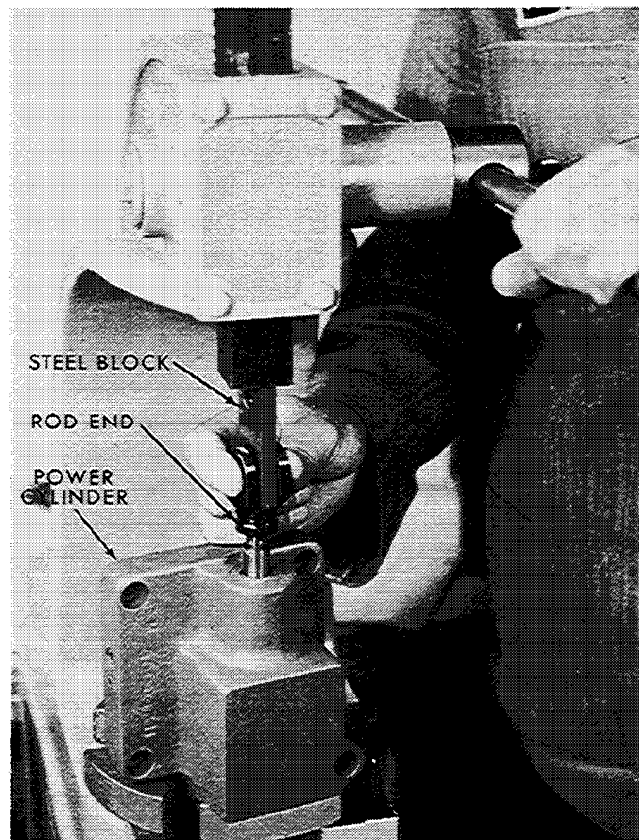

Figure 3-7
4. Press oil seal (47) into oil seal retainer (48) flush with the end opposite the flange end of retainer.
5. Install gasket (46) and the assembly consisting of the oil seal and oil seal retainer. Install the drive shaft assembly. Attach retainer (52) with screws (53). Tighten screws evenly. Do not attempt to bring the retainer into contact with the base. Install lock wire (54) on screws (53).
6. Press oil seals (6) and (7) into power cylinder (10). Seal (7) should be inserted with the part number facing out. Seal (6) should be inserted with the part number facing in and pressed in to 0.005" (0.13 mm) below flush.
7. Place oil seal inserter (Woodward tool 360066) on over rod of power piston assembly (16) to avoid damaging oil seals (6) and (7) when inserting the piston assembly in the power cylinder.
8. Position the power cylinder in an arbor press, align the taper pin holes, and press rod end (5) onto the end of power piston (16). See Figure 3-7. Place a small steel block in the rod end slot so that pressure is applied against the bottom of the slot.